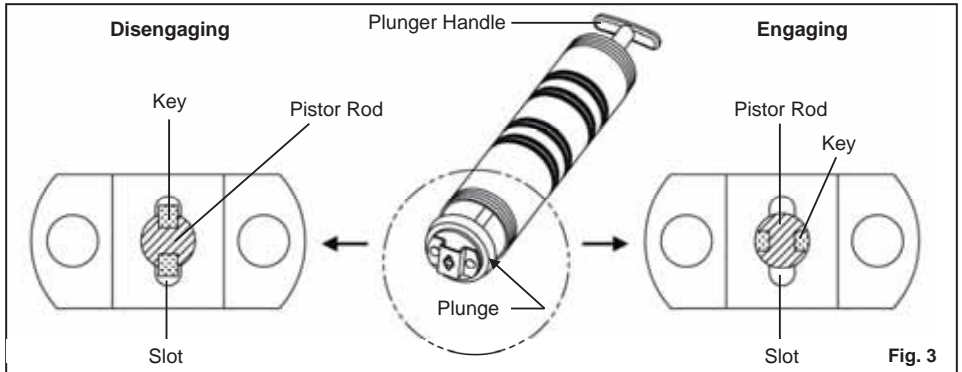

Fig. 3
2. If the gun still fails to work. Draw back the piston rod fully and "Engaging" it with plunger by rotating the plunger handle about 1/4 ~ 1/2 turns to set the position of key. See Fig. 3.
4. Repeat item 1. procedure until trapped air is removed.
1. Set the plunger in "Engaging". See Fig. 3